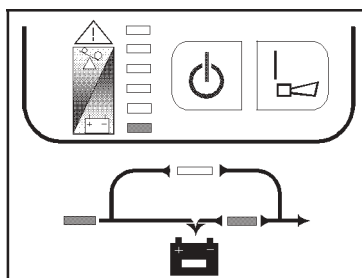

Figure 1.2-1 Inverter Mode
2. Then press the “|” button. After 10 seconds, the control panel will become what is shown in Fig. 1.2-1.